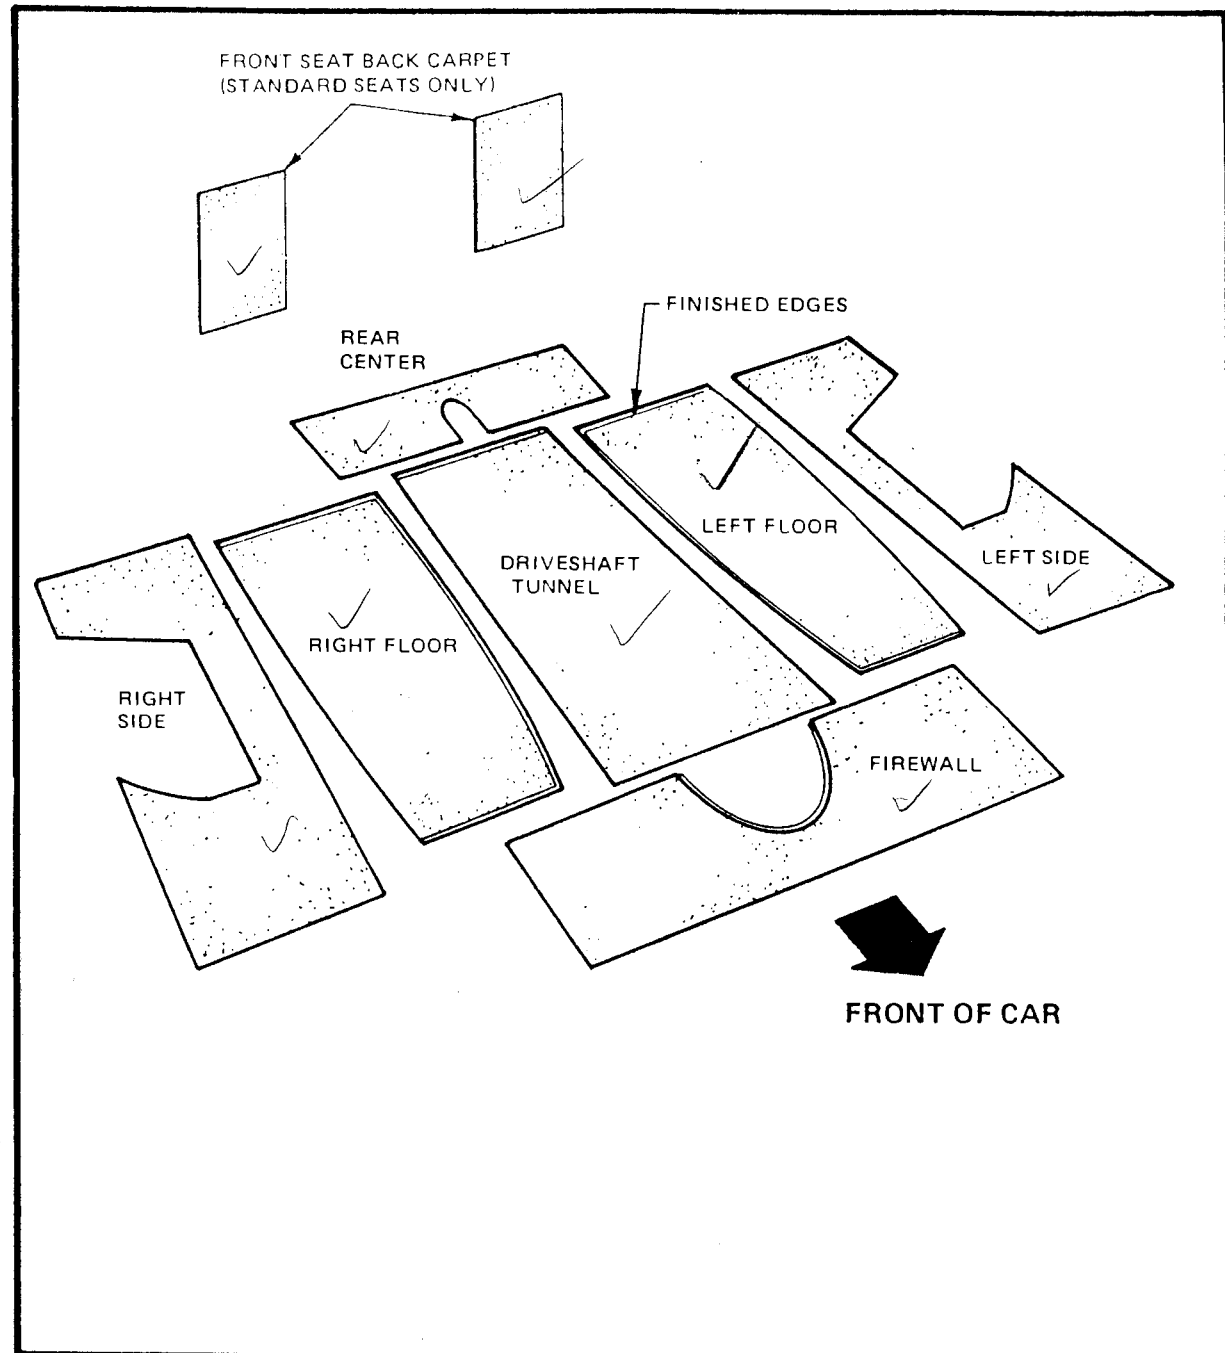

Figure 1
- The carpeting kit consists of seven pieces as shown in Figure 1. Lay out the pieces on the floor and check to be sure you have unpacked all the pieces.